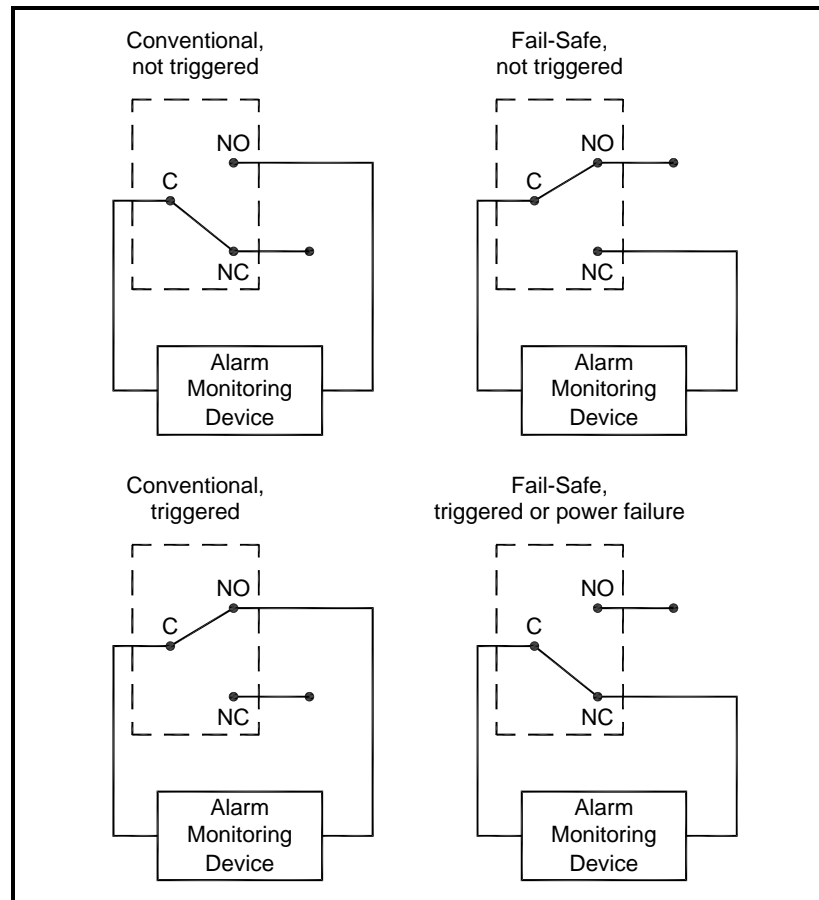
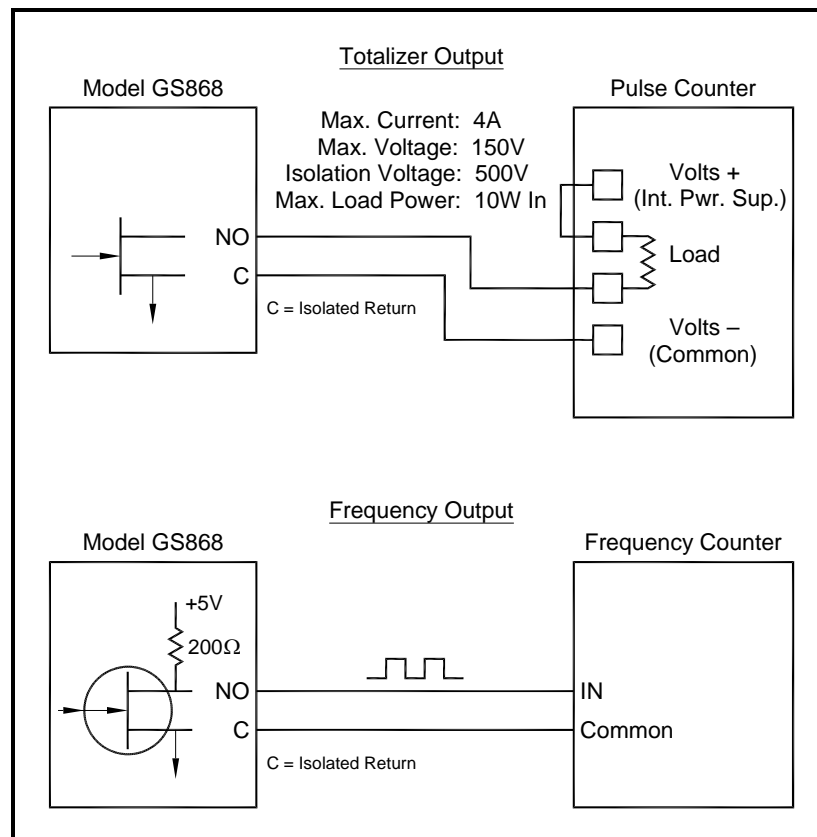
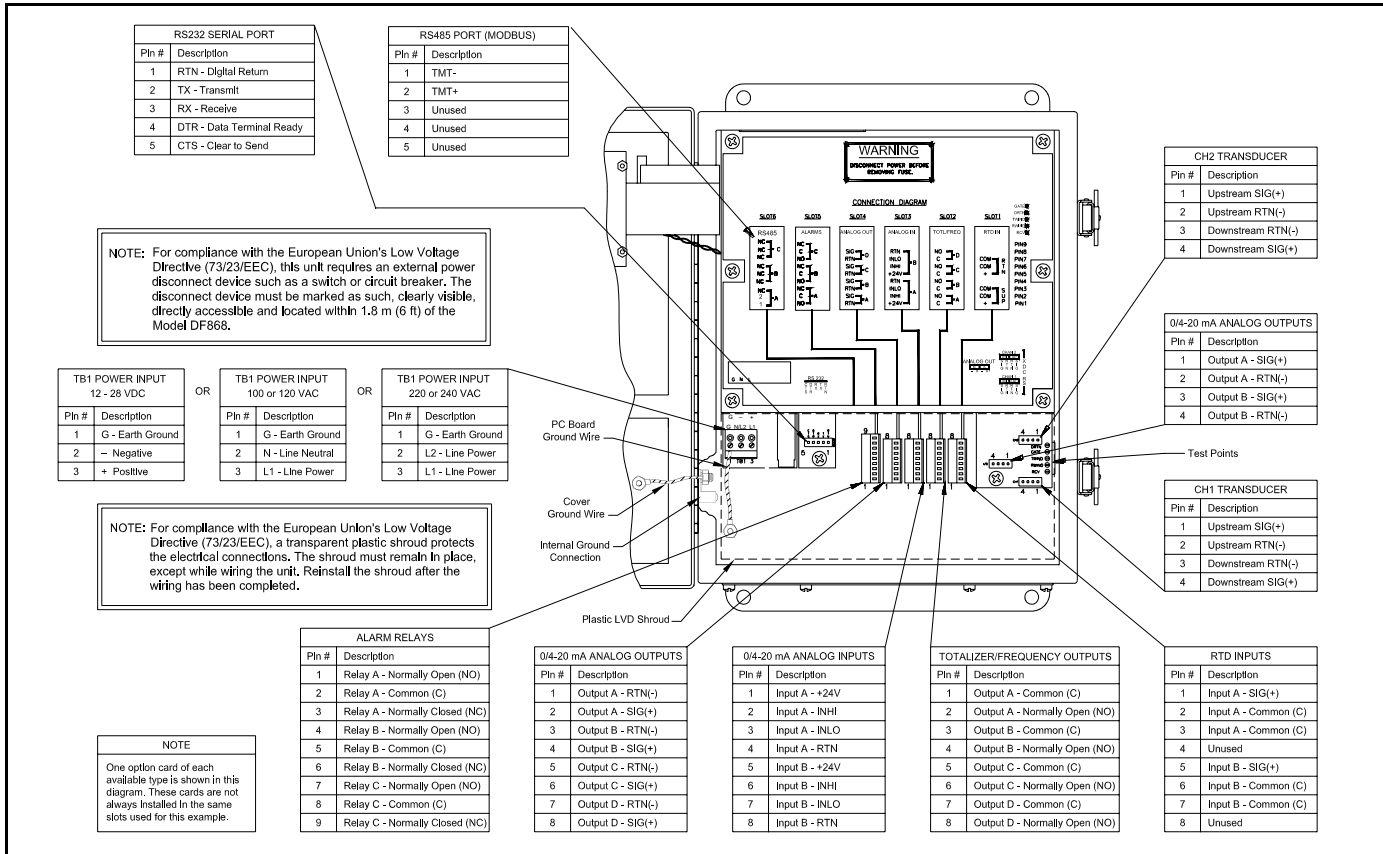

Figure 1-6: Conventional and Fail-Safe Operation
Figure 1-8: Totalizer/Frequency Outputs Wiring
Figure 1-10: Model GS868 Electronics Console Wiring (ref. dwg #702-213, sht 1 of 2)
3. Using the pair of coaxial cables with BNC to flying lead connectors supplied by the factory (or equivalent cables), connect the preamplifier to terminal block CH1 in the electronics console. Refer to Figure 1-10 on page 1-20 for the location of the terminal block and the terminal block pin assignments.
Refer to Figure 1-10 on page 1-20 for the location of terminal block I/O and wire the terminal block as shown.
The RS232 serial interface is wired as Data Terminal Equipment (DTE), and the signals available at the Model GS868 RS232 terminal block are shown in Table 1-1 below. Refer to Figure 1-8 on page 1-16 to locate terminal block RS232 and complete the following steps to wire the terminal:
To wire the RS485 serial port, refer to Figure 1-10 on page 1-20 and complete the following steps:
In setting up an alarm relay, it may be wired for either *conventional* or *fail-safe* operation. In fail-safe mode, the alarm relay is constantly energized, except when it is triggered or a power failure or other interruption occurs. See Figure 1-6 below for the operation of a NO alarm relay in both conventional and fail-safe mode.
Connect the two wires required for each alarm relay in accordance with the pin number assignments shown in Figure 1-10 on page 1-20.
Wire the analog input terminal block in accordance with the pin number assignments shown in Figure 1-10 on page 1-20. The standard Model GS868 has at least one analog inputs option card, which is used to supply the live pressure reading required for accurate mass flow calculations. These option cards are identical to the temperature/pressure card described above and they should be wired in the same manner (see Figure 1-6 on page 1-14).
Each totalizer/frequency output requires two wires. Wire this terminal block in accordance with the pin number assignments shown in Figure 1-10 on page 1-20. Figure 1-8 below shows sample wiring diagrams of a totalizer output circuit and a frequency output circuit.
The standard Model GS868 has at least one RTD inputs option card, which is used to supply the live temperature reading required for accurate mass flow calculations. Each RTD input requires three wires, which should be fed through one of the conduit holes on the bottom of the electronic console. Wire this terminal block in accordance with the pin number assignments shown in Figure 1-10 on page 1-20.
Connections to these outputs may be made with standard twisted-pair wiring. The total current loop impedance for these circuits must not exceed 1000 ohms. Wire this terminal block in accordance with the pin number assignments shown in Figure 1-10 on page 1-20.